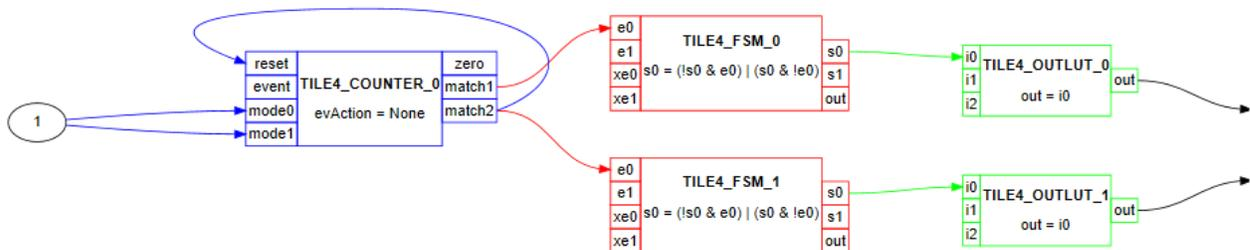

Figure 5-5. QepOnClib Simulation Stimulus
1. The QEP-A/B input stimulus was generated by CLB tile 4 using a counter and two FSMs as shown in Figure 5-5. Each FSM s0 output toggles when its e0 input changes. The outputs from the FSM modules were connected to the tile 1 simulation inputs in3 and in5.